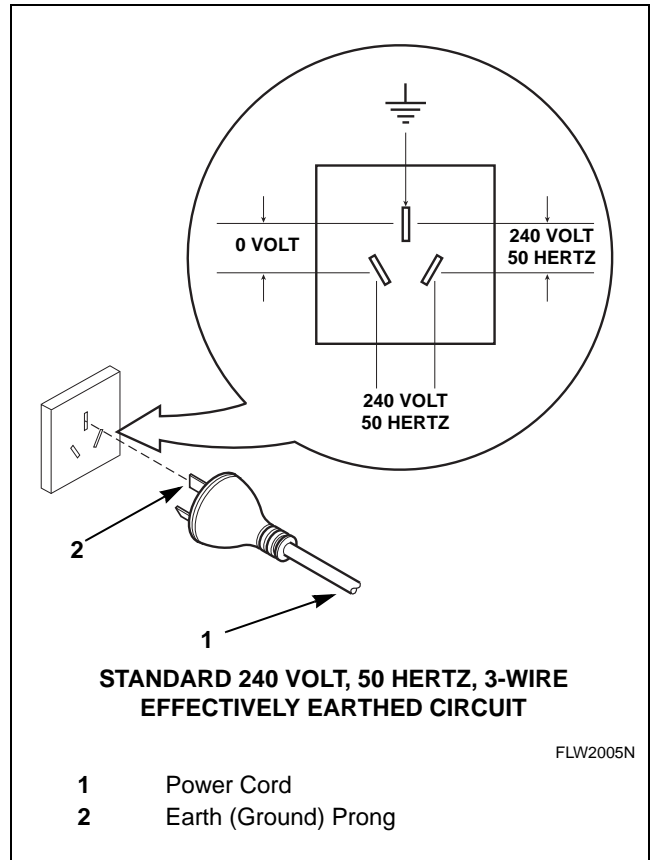

Figure 13
The 3-prong earthing plug on the power cord should be plugged directly into a polarized three-slot effectively earthed receptacle rated 240 Volts AC (alternating current) 10 Amps. Refer to *Figure 13* to determine correct polarity of the wall receptacle.
**NOTE: Have a qualified electrician check the polarity of the wall receptacle. If a voltage reading is measured other than that in *Figure 13*, the qualified electrician should correct the problem.**